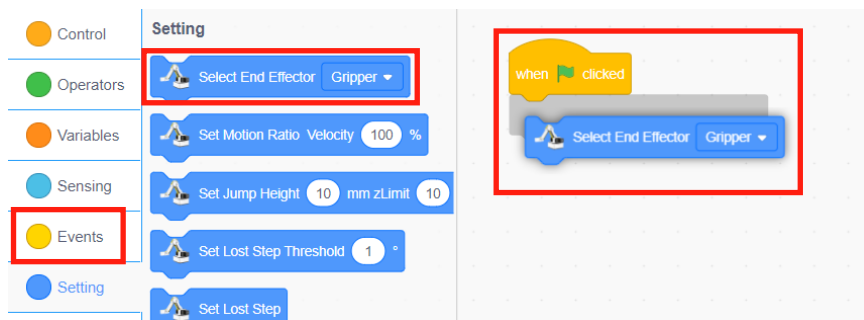

Figure 1.11 Setting the end tool
Step 7: Set the end tool. Click on the "**Setting**" tab, drag the "End Tool setting (gripper or suction cup)" block, and put it together with the previous block, as shown in Figure 1.11.